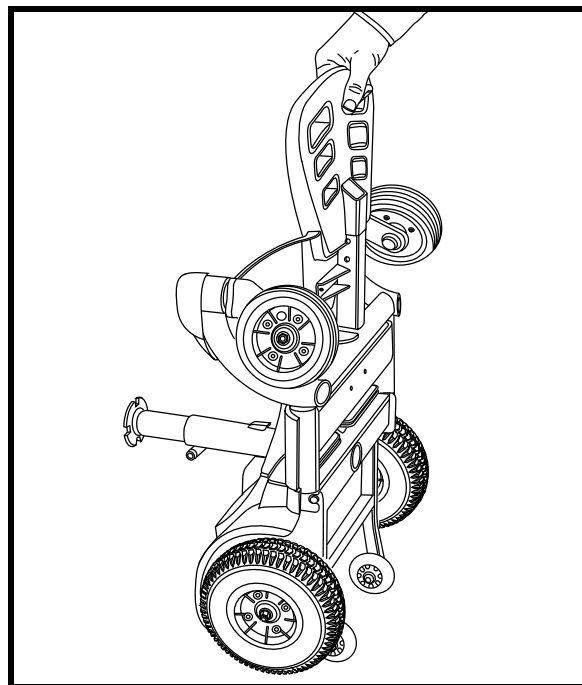

Figure 11. Lift Front Section
3. Grasp the foot platform and lift the front section to a vertical position on the rear section. See figure 11.